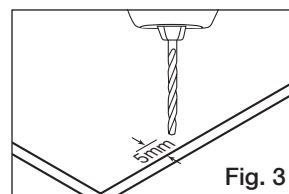

Fig. 3
- Use the supplied pins to retain the panel in the C-channel by drilling 3mm holes 5mm in from the edge of the panel and inserting the pins with pliers. Then slide the C-channel over the pins (See Fig. 3, 4, 5).
- Drill 3mm holes 5mm from the edge of the panel (Fig. 3).